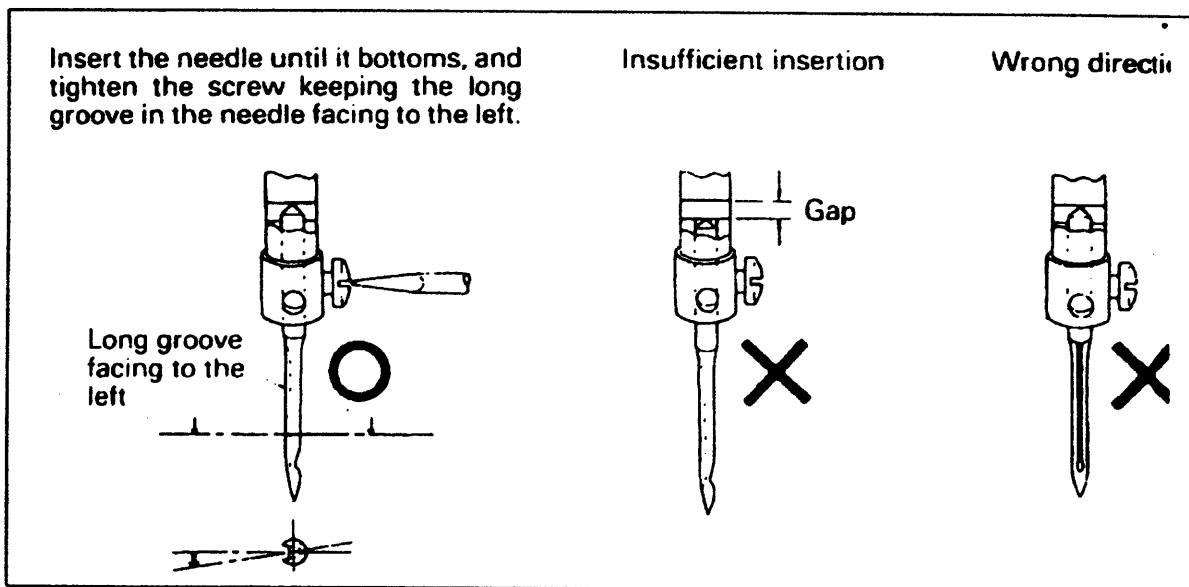

Fig. 2
6. How to attach a needle (Fig.2):